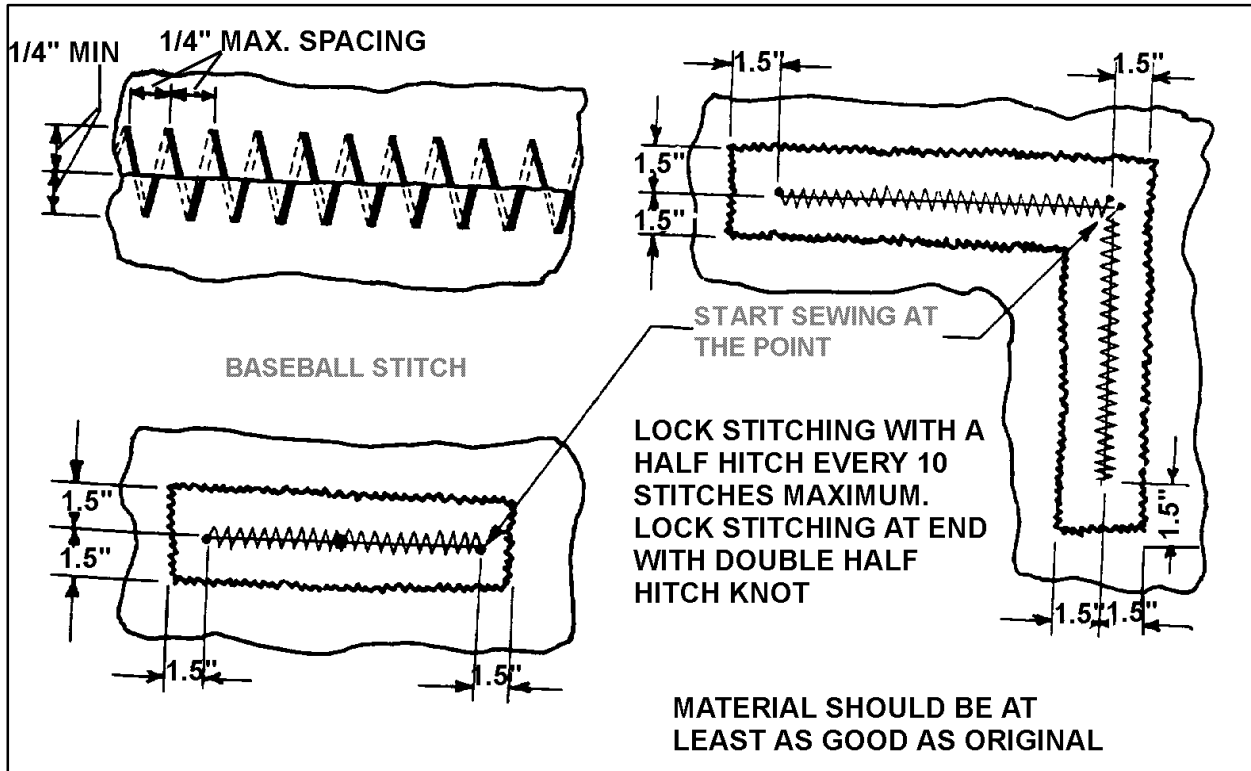
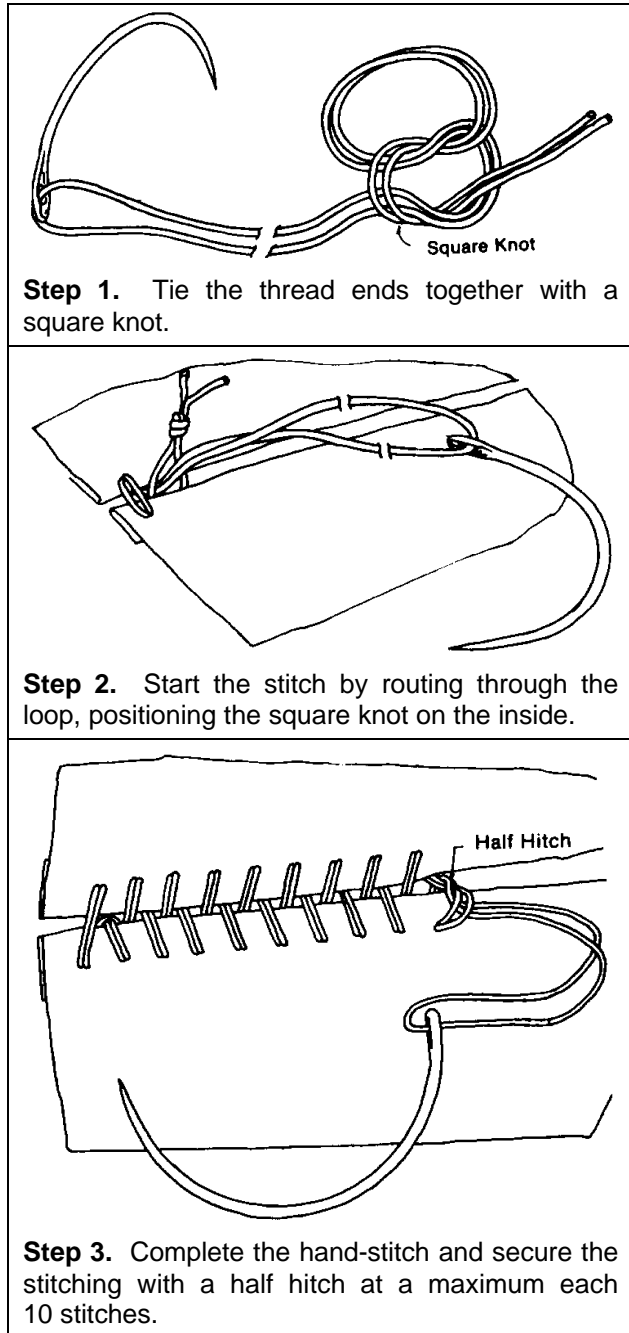

FIGURE 2-13. Repair of tears in fabric.
FIGURE 2-14. Hand-stitch detail.
2-43. REPAIR OF TEARS AND ACCESS OPENINGS. When all the original fabric is intact, an opening may be repaired by sewing the two sides together with a curved needle as illustrated in figures 2-13 and 2-14. The fabric edges should be pulled together uniformly with no wrinkles. Before sewing, remove the old dope coats down to the clear dope coats a distance of 2 inches on each side of the opening. The hand-sewn thread quality should be at least equal to that specified in table 2-2 and treated with wax (paraffin-free or beeswax) to prevent fraying, or use the proper thread on the STC application. After sewing, apply a coat of clear dope over the cleaned area and install a 3-inch wide finishing tape, centered over the stitches.
a. **After cutting out the damaged section** and removing the coatings as detailed in paragraph 2-42, the new fabric section should be sized to allow folding both edges of the fabric back 1/2-inch to increase the stitch tear resistance. Temporarily attach the four corners in position with thread. Start with a double thread with a square knot at the end (see figure 2-14) and continue stitching in the manner described in figures 2-13 and 2-14. When the stitching is complete, wet the new fabric section as described in paragraph 2-21 to remove any creases. After drying, apply one coat of clear dope on the new fabric, as described in paragraph 2-21. When the first coat of dope has dried 1 hour at 70 °F, apply a 3-inch wide finishing tape, centered over the stitches. The finishing tape should be well saturated with